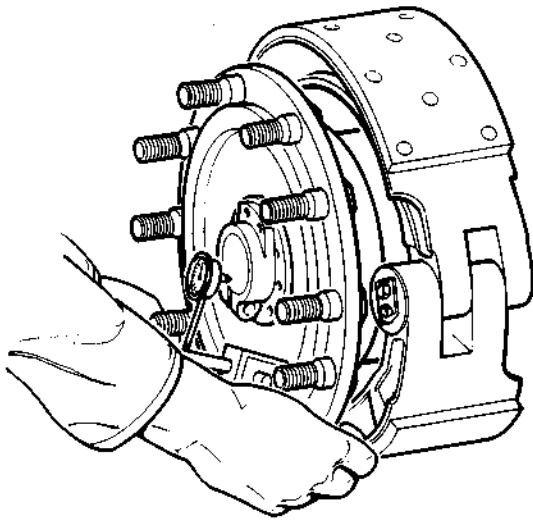

FIG. 4. CHECKING THE HUB END-FLOAT USING A DIAL GAUGE
6. Attach a dial gauge base to a convenient point on the hub, arrange the stylus to contact the axle arm, see Fig. 4.